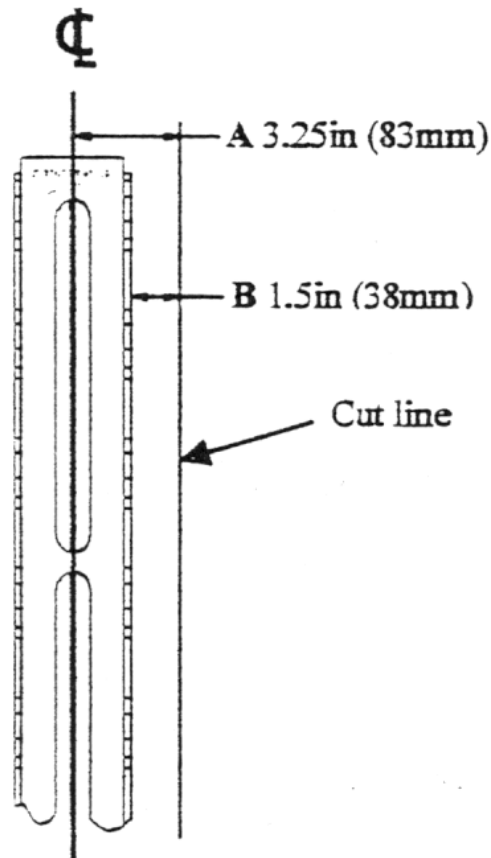

Figure 2-1
3. Layout concrete anchor marks, labeled "A" in Figure 2-1, 3-1/4 inches (83 mm) inside each cut line.
3. Position the outside of the rail, labeled “B” in Figure 2-1, exactly 1-1/2 inches (38 mm) from the center of the cut line and securely tighten the anchors.